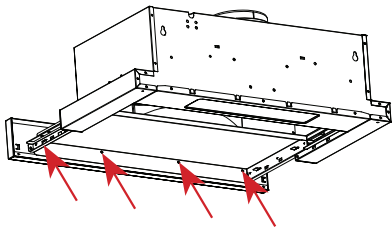

Figure 6
1. Unscrew the 80mm fascia rail which is already installed on the rangehood (Figure 6).